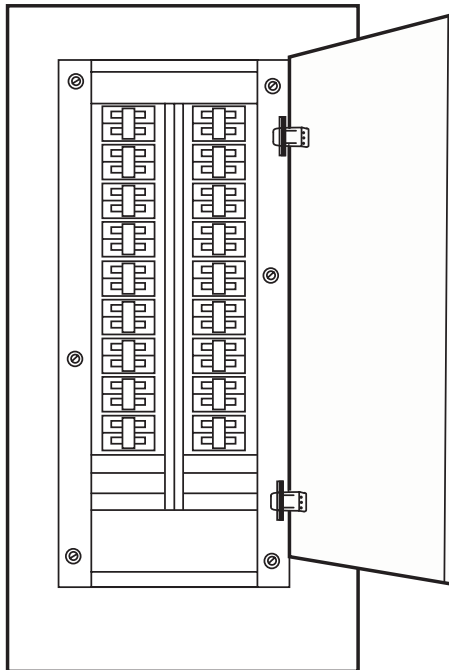

Figure 1. 120V Pilothouse Emergency Distribution Panel No. 1
- a. 120V pilothouse emergency distribution panel No. 1 (figure 1), located in the 01 level passageway.